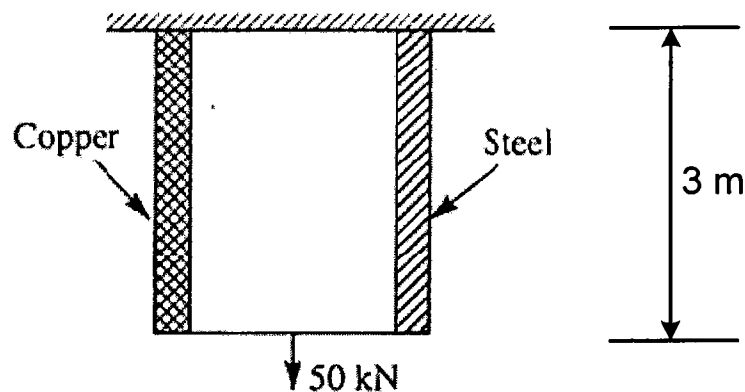

Figure Q4[b]
- [b] A compound bar 3 m long in Figure Q4[b] is made of two bars, one of copper having $E = 105$ GPa and the other of steel having $E = 210$ GPa. The cross section of each bar is 25 mm wide and 12.5 mm thick. The compound bar is stretched by a load of 50 kN.